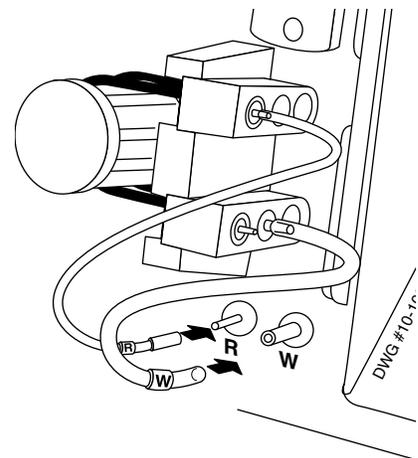

Figure 4.9 Connecting the Pump Tubing W and R-lines
10. Connect the R-pump tubing line to the R-labelled outlet below the pump manifold (see Figure 4.9).
11. Connect the W-pump tubing line to the W-labelled outlet below the pump manifold (see Figure 4.9).